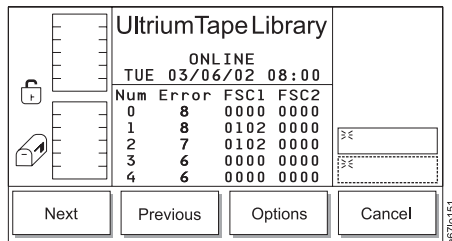

Figure 4-61. Drive Log Dialog
1. Specify the drive that you want by performing steps 1 through 5 in “Viewing the Drive’s Error Log” on page 4-30. The Drive Log Dialog displays (see Figure 4-61).